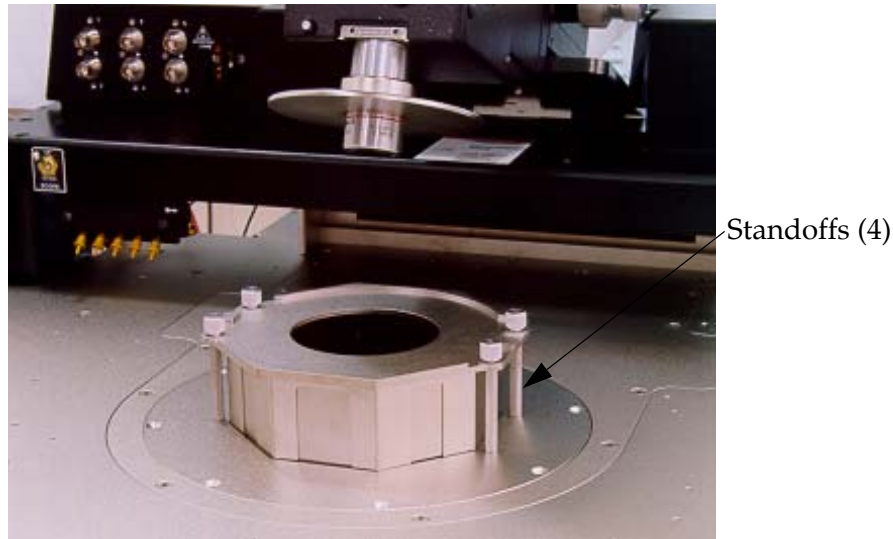

Fig. 36. TopHat for RF.
Except for the rear port that interferes with the microscope, you can mount the DCM positioner at any seal in the TopHat, if you have a MicroChamber. See figure 36.
2. Screw in the four standoffs on the platen. *See* figure 36 on p. 48.